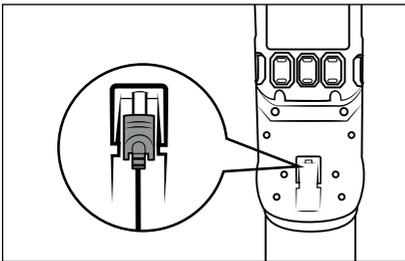

Fig. 8
- ▶ The vacuum cleaner can also be charged directly via the mains adapter **10**. To do this, remove the barrel plug **11** from the wall bracket **13** by turning it slightly and insert it into the charging socket **3** on the appliance (see Fig. 8).